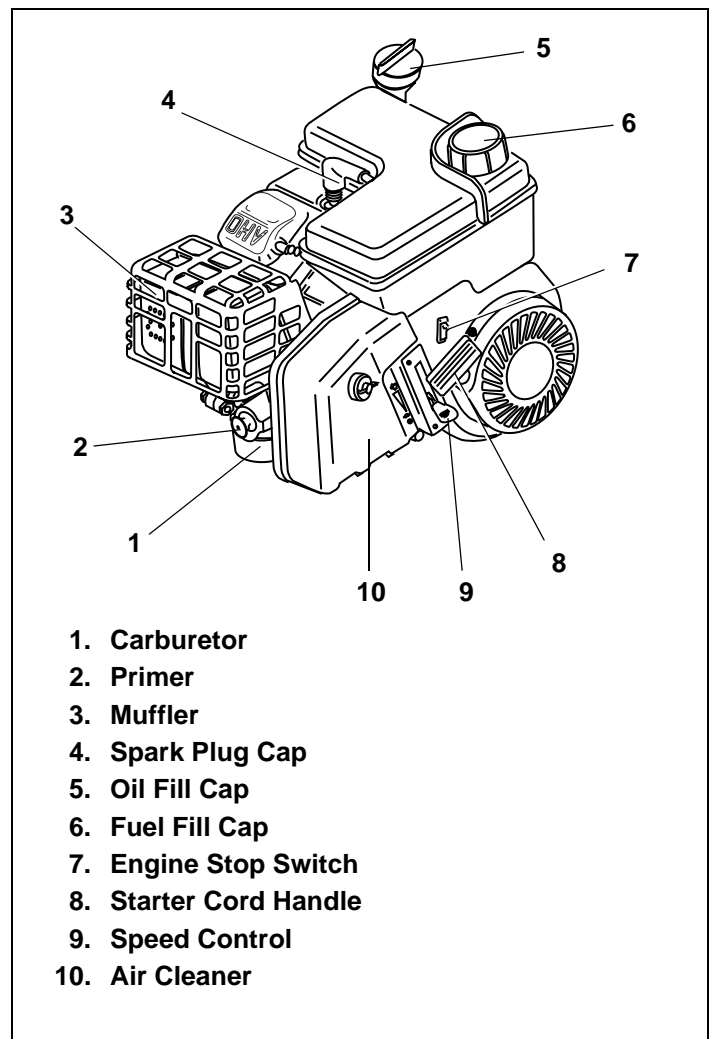

Figure 8. Engine with Oil Fill Dipstick
2. Unscrew oil fill cap from oil filler tube and wipe dipstick clean. See Figure 8 on page 4. Afterward, continue reading instructions below.
3. Clean area around fuel fill cap and remove fuel fill cap. See Figure 8 on page 4. Afterward, continue reading instructions below.